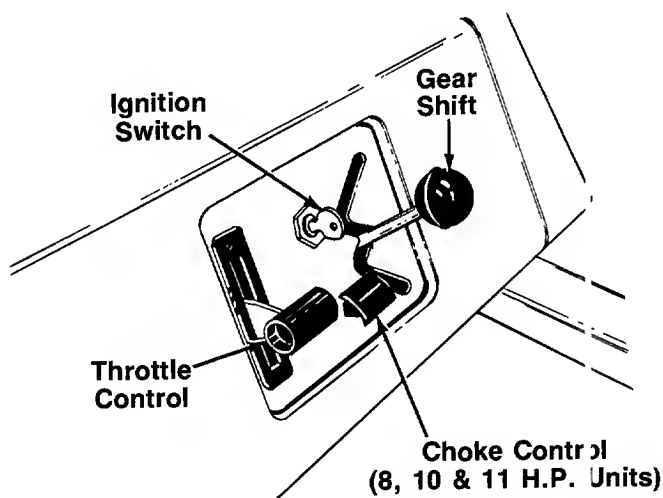

FIGURE 16.
The throttle control is used to regulate the engine speed. On 5 H.P. models, it is also used to choke the engine. The engine should be operated from 3/4 to full throttle when operating the cutting deck. See figure 16.
The choke control is located on the console and is operated manually. Details for the choke operation are covered in the separate engine manual packed with your unit. See figure 16.
**Electric Start Model**—The key must be turned to the START position to start the engine. After the engine is running, let the key return to the ON position. Turn the key to the OFF position to stop the engine. Remove the key when the rider is not in use. See figure 16.
The shift lever is located on the left hand side of the console and has three positions, FORWARD, NEUTRAL and REVERSE. See figure 16. The clutch-brake pedal must be depressed and the riding mower
b. **Electric Start Units:** Turn the ignition key to the START position. As soon as the engine starts, let the key return to the ON position. See figure 16.